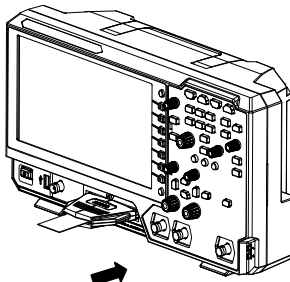

Figure 7 To Connect the Logic Probe
2. Connect the output terminal of the logic probe to the digital channel input terminal on the front panel of the oscilloscope in the correct direction, as shown in Figure 7.